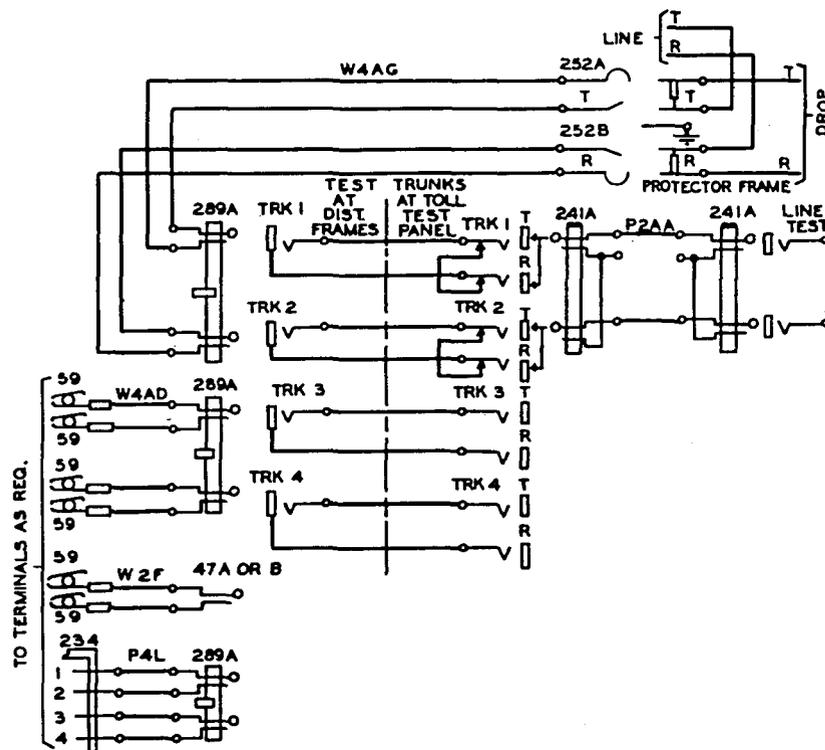

Fig. 3 - Detail of Connections at Protector and Distributing Frames and at Toll Test Panel
3.11 Testing connections to the test trunks at the distributing frames may also be made by means of P4L, W2F or W4AD cords as required. (See Fig. 3) The No. 289A plug or the Nos. 47A or 47B plugs associated with these cords are connected to the TRK1, TRK2, TRK3 or TRK4 jacks while the No. 234 plug or the No. 59 clips are attached to terminal punchings at the protector frames or distributing frames in the manner required.